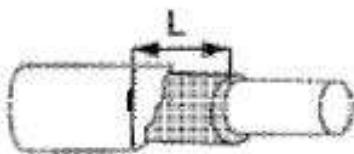

Figure 234
3. Inter-tape or frayed insulation exposure-*L* (Figure 234) exceeds 0.039 in. (1 mm) or 50% of the insulation outside diameter whichever is greater.